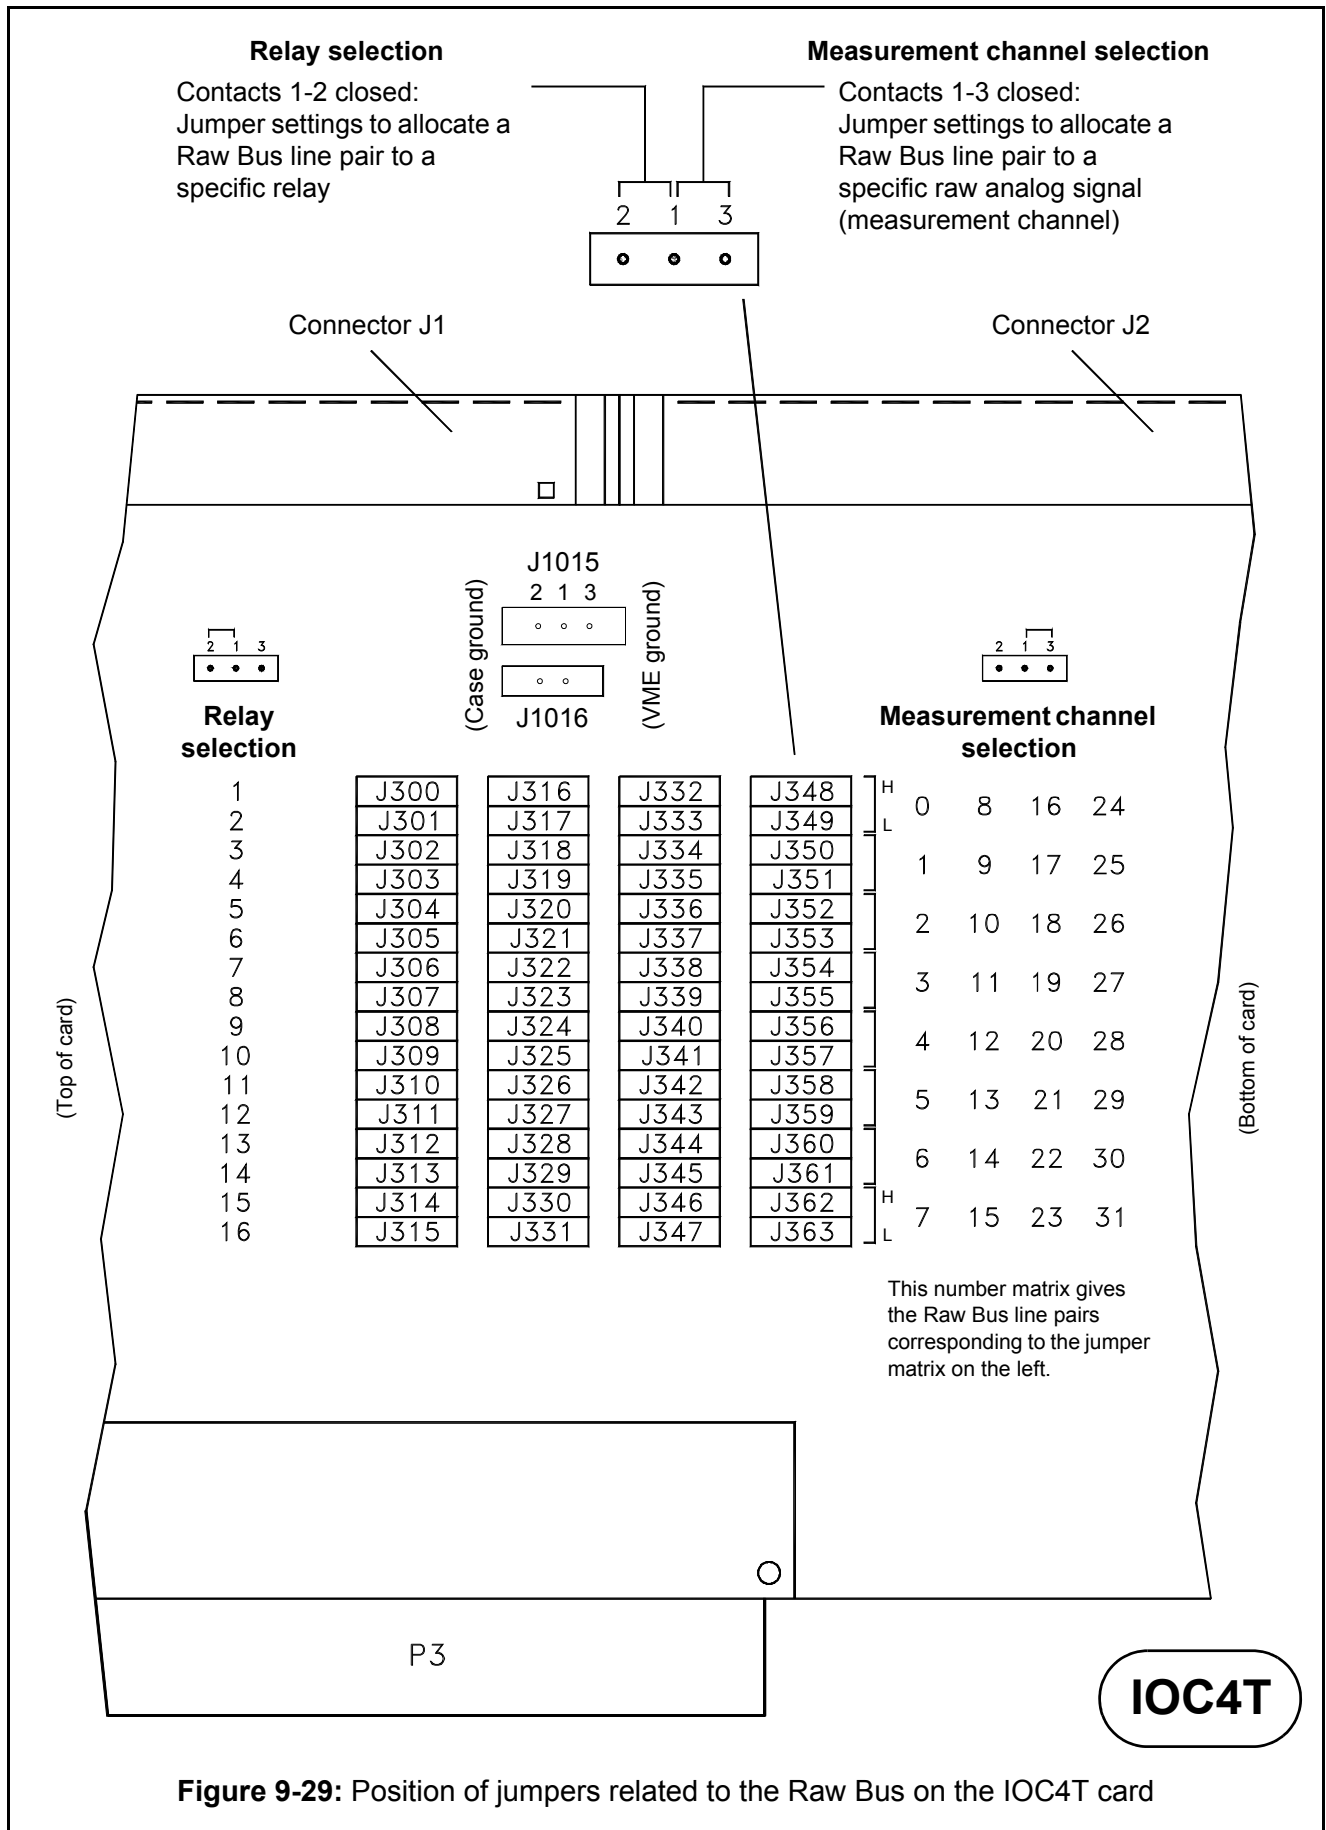

Figure 9-29: Position of jumpers related to the Raw Bus on the IOC4T card
The location of the J1015 jumper on the IOC4T card can be found using Figure 9-29.
The allocation of a specific Raw Bus line pair to a measurement channel is done by setting jumpers on the IOC4T card (and on the IOC16T card – refer to the *VM600 condition monitoring system (CMS) hardware manual* (MACMS-HW/E)). The mapping of the measurement channels to the Raw Bus line pairs is summarised in Table 9-6, together with the required jumper settings. The position of the relevant jumpers on the IOC4T card is shown in Figure 9-29 with an explanation of which jumpers correspond to which Raw Bus lines (see “measurement channel selection” on the right of the figure).
The allocation of a specific Raw Bus line pair to a specific control signal line is done by setting jumpers on the IOC4T card. The jumper settings are summarised in Table 9-7 and the position of the relevant jumpers on the IOC4T card is shown in Figure 9-29 with an explanation of which jumpers correspond to which Raw Bus lines (see “relay selection” on the left of the figure).
The control signal is subsequently routed towards a specific relay on the RLC16 card by setting a jumper on the RLC16. Additional jumpers on the RLC16 allow the selection of relay normally energised (NE) or normally de-energised (NDE). The jumper settings are summarised in Table 9-7 and the position of the relevant jumpers on the RLC16 card is shown in Figure 9-29.